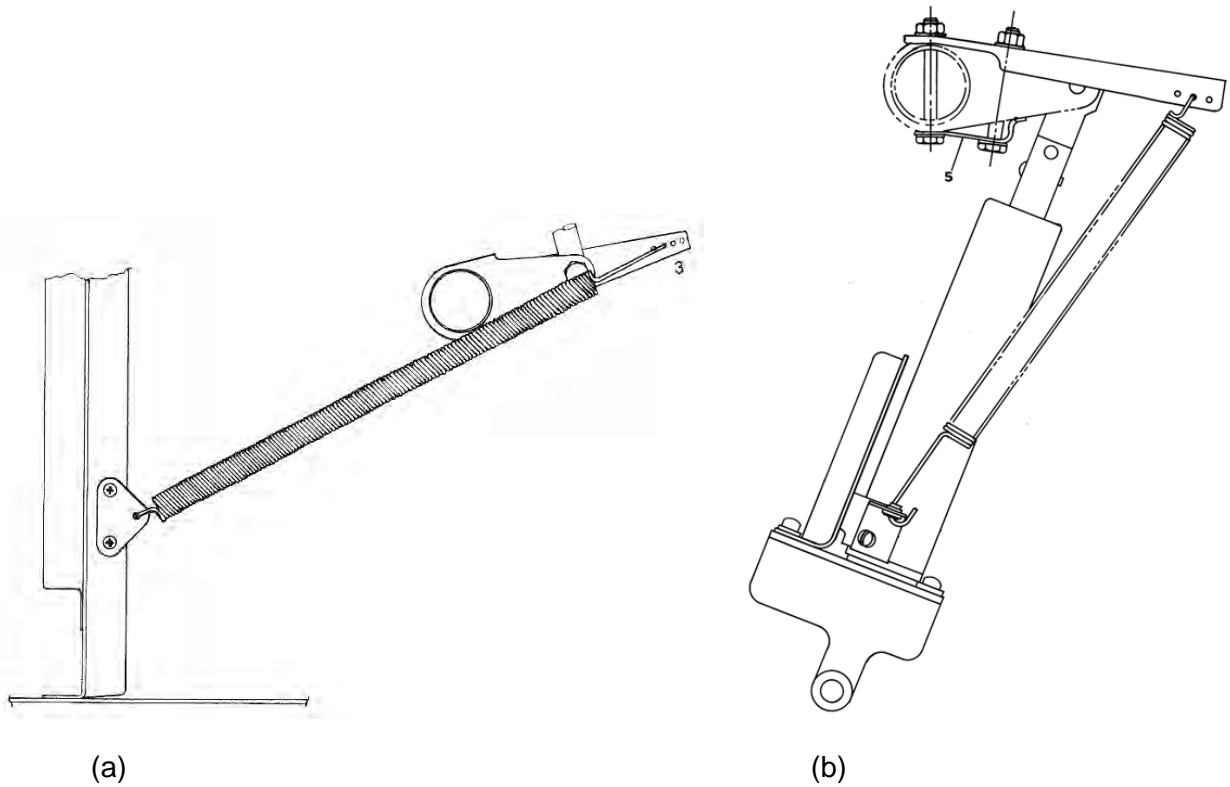
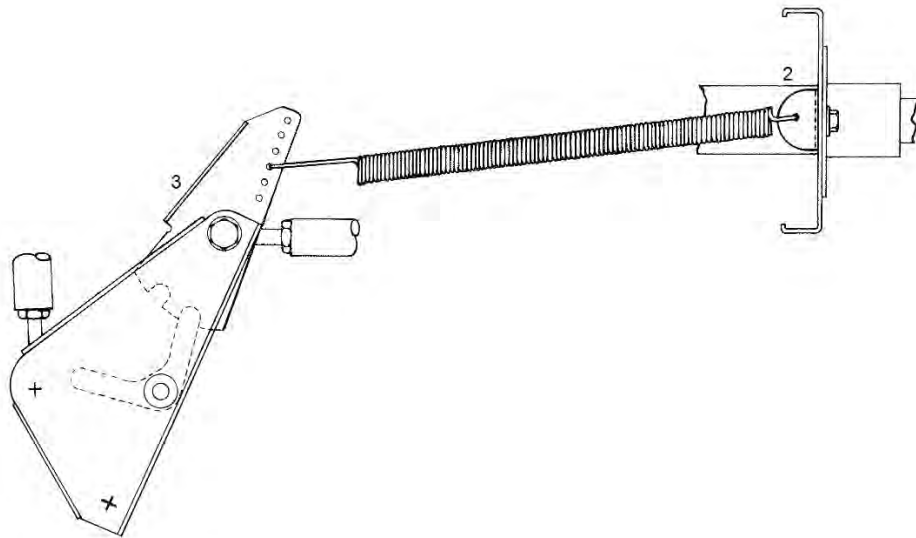

Figure 12-18. Lateral Bias Spring Installation
Figure 12-19. Longitudinal Bias Spring Installation
NOTE: The lateral bias spring installation is configured one of two ways. Helicopters certified to 2350 lb gross weight are configured as shown in Figure 12-18(a); Helicopters certified to 2600 lb gross weight (configured to Enstrom Specification Drawing 28-100015) are configured as shown in Figure 12-18(b).
A. Lateral Bias Spring Installation (Figure 12-18)
1. Attach spring (1) to bracket (2) and to the third hole from forward end of bracket (3).
B. Lateral Adjustment (Figure 12-18)
1. Maximum left lateral trim is obtained by moving the spring outboard on bracket (3).
2. Maximum right lateral trim is obtained by moving the spring inboard on bracket (3).
C. Longitudinal Bias Spring Installation (Figure 12-19)
1. Attach spring (1) to bracket (2) and to the fourth hole from top of bracket (3).
D. Longitudinal Adjustment (Figure 12-19)
1. Moving spring down on bracket (3) will provide maximum forward trim force.
2. Moving spring upward on bracket (3) will provide maximum aft trim force.